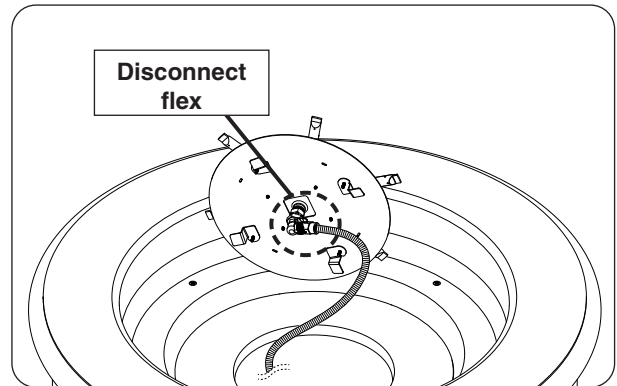

Fig. 32-3 Disconnect flex connector
3. Disconnect flex connector attached to the burner assembly (see Fig. 32-3). Store the burner in a safe location.